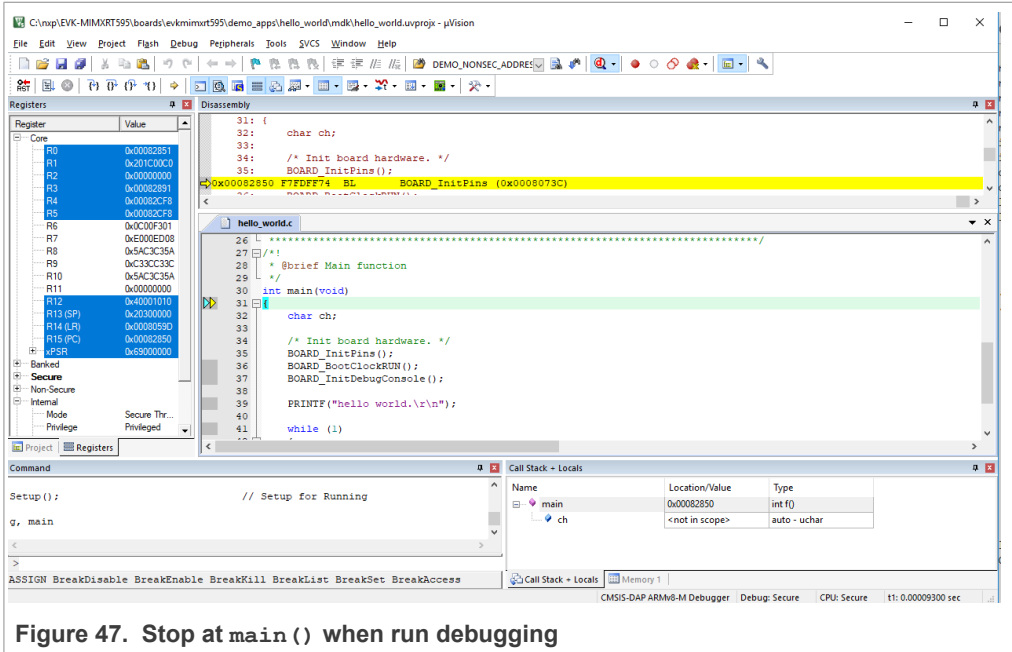

Figure 47. Stop at main () when run debugging
4. To debug the application, click **load** (or press the F8 key). Then, click the **Start/Stop Debug Session** button, highlighted in red in Figure 47. If using **J-Link** as the debugger, click **Project option > Debug > Settings > Debug > Port**, and select **SW**.